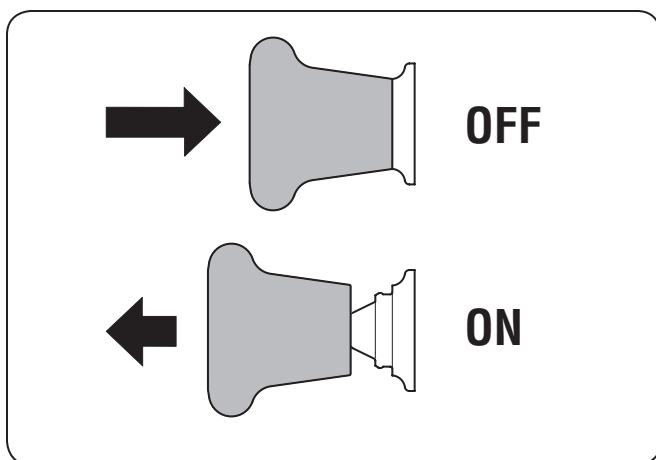

Figure 5-3 (Models with electric PTO)
- a. Pull the PTO/Blade Engage knob outward into the engaged (ON) position. See Figure 5-3.